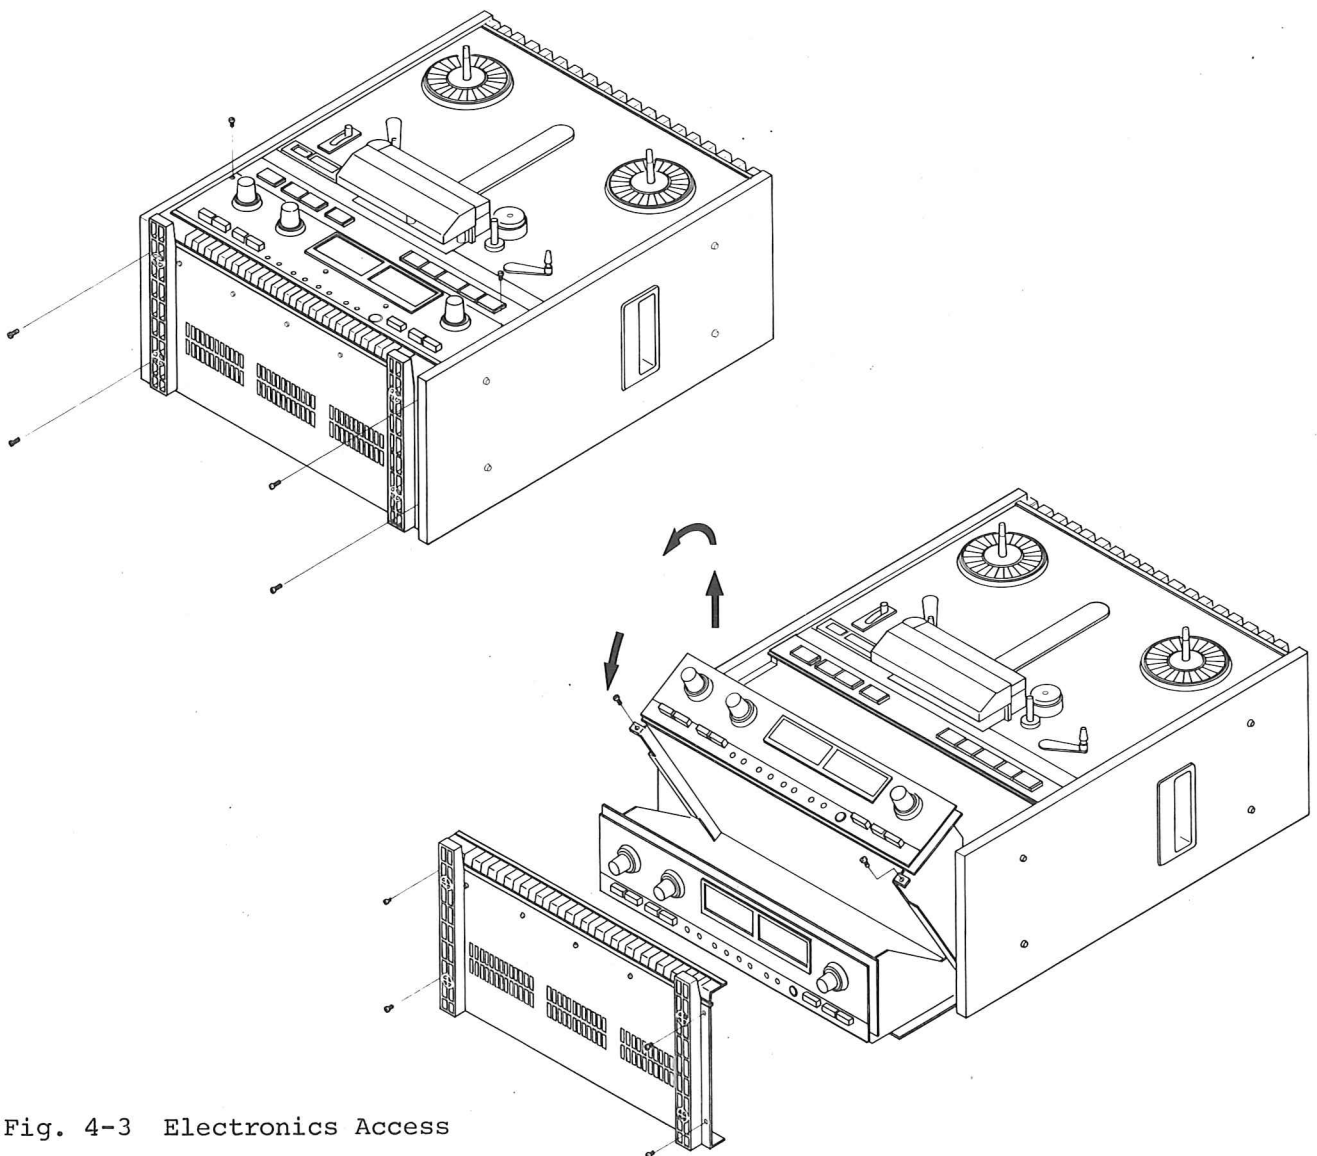

Fig. 4-3 Electronics Access
2. Remove the bottom cover by removing the four screws on the cover as shown in Fig 4-3, remove the two screws on the electronics front panel, and remove two screws on the electronics chassis, as shown in Fig 4-3.